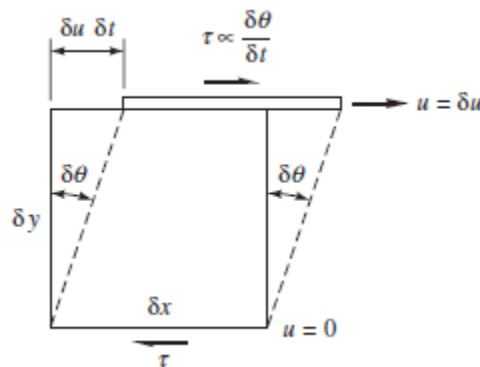

Fig. 1: Shear stress causing continuous deformation in a fluid
- As it is two-dimensional plane, the shear stress will be acting as shown in Fig. 1.
- After a particular interval δt , the shape of the element will be deformed as shown in Fig. 1.